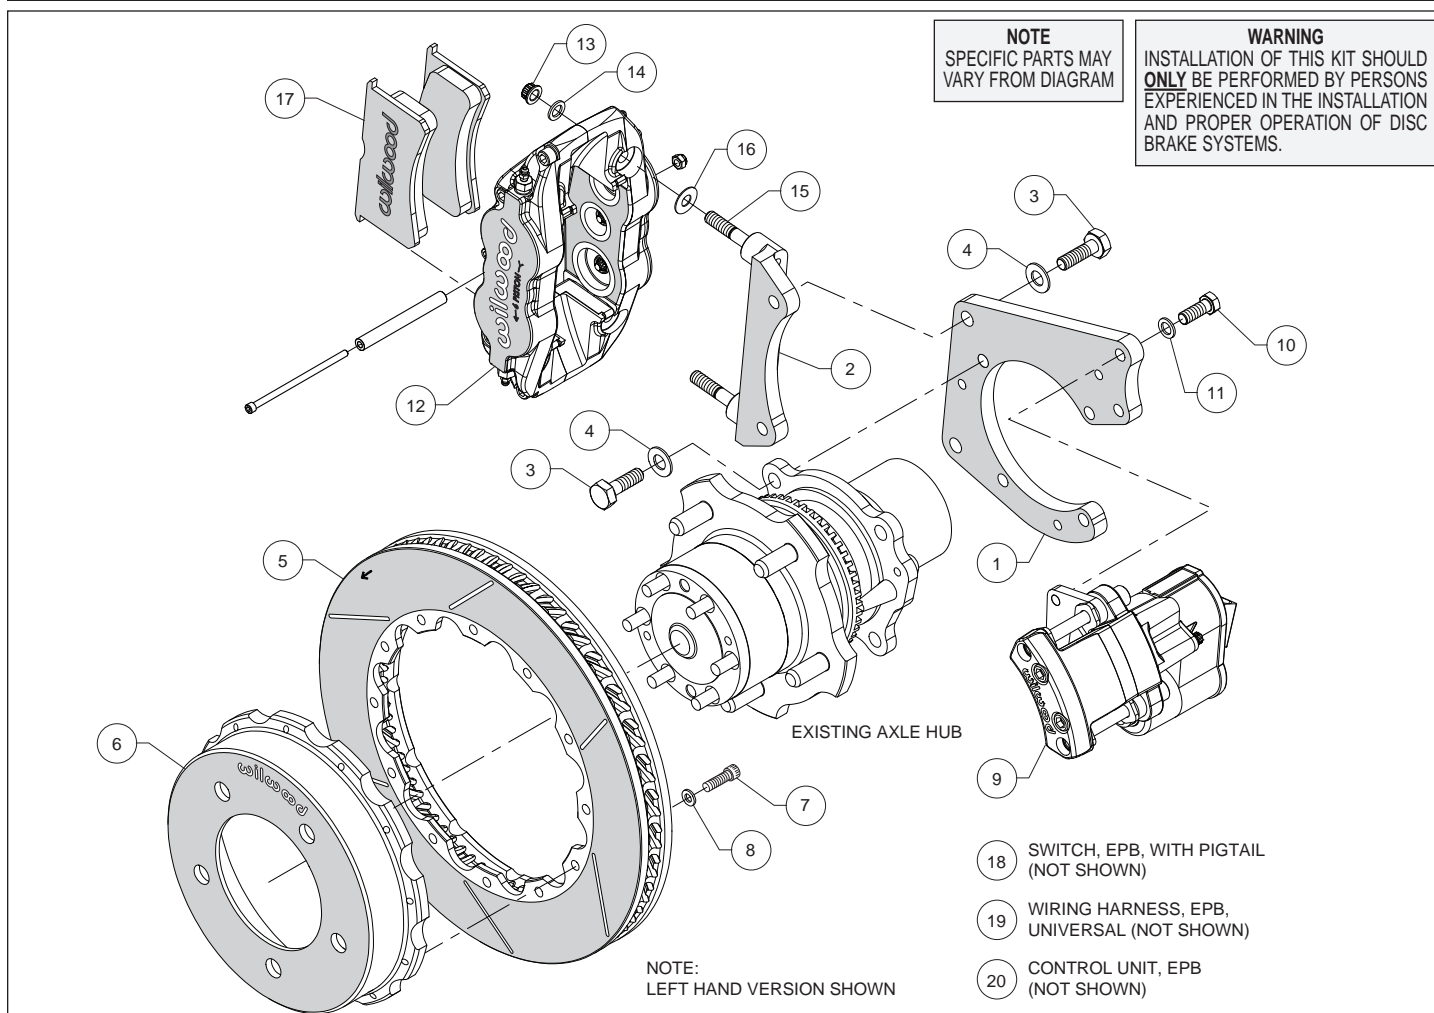

Figure 1. Typical Installation Configuration
**Assembly Instructions** (numbers in parenthesis refer to the parts list and Figure 1 on the preceding pages):
- The flat bracket (1) should initially be installed with clean, dry threads on the mounting bolts. Orient the bracket as shown in Figure 1, and Photo 1, and install using bolts (3) and washers (4). Temporarily tighten the mounting bolts. **NOTE:** *The bracket must fit squarely against the axle flange.* Inspect for interference from casting irregularities, machining ridges, burrs, etc. Remove the bracket mounting bolts one at a time, apply red *Loctite*® 271 to the threads, and torque to 60 ft-lbs.
- The caliper mount bracket (2) should initially be installed with clean, dry threads on the mounting bolts. Orient the bracket as shown in Figure 1 and Photo 2, and install using mount bolts (3) and washers (4). Temporarily tighten the mounting bolts. Inspect for interference from casting irregularities, etc. Remove the bracket mounting bolts one at a time, apply red *Loctite*® 271 to the threads, and torque to 60 ft-lbs.
- NOTE:** *This kit contains distinct right and left hand calipers that must be mounted in a specific direction, as described below.* Lubricate the caliper mounting studs (15) with lightweight oil. Initially place one .035" thick shim (16) on each stud between the caliper and the bracket, as shown in Figure 1 and Photo 5. Mount the caliper (12) onto the bracket (2) using lock nuts (13) and washers (14), Figure 1. Temporarily tighten the lock nuts. Ensure that the caliper is mounted so the largest pistons are at the rotor exit end of the caliper, in relation to the direction of the rotor.
- Mount the EPB caliper (9) onto the flat bracket (1) using bolts (10) and washers (11), as shown in Figure 1 and Photo 9. Apply red *Loctite*® 271 to bolt threads, and torque to 30 ft-lb.